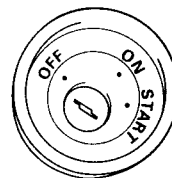

Fig.47
- When the unit is mounted in a vehicle whose ignition switch does not have the ACC (accessory) position as shown in Fig. 47, be sure to connect the red lead of the unit to the terminal controlled by the ignition switch ON/OFF position. If you do not, the vehicle battery may go flat when you leave your vehicle for several hours.